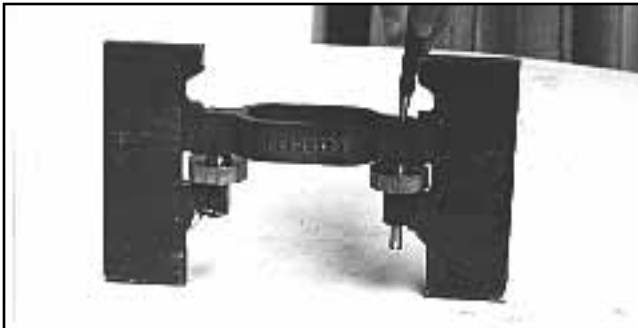

Figure 58
1. With blade assembly removed from the rotor, remove cotter pin and drive groove pin from blade assembly, Figure 58.